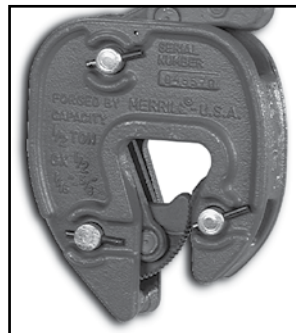

Figure 7
3. **DO NOT** use a clamp on a member whose thickness is less or more than the grip range shown on the clamp. Every Campbell clamp has its lifting capacity and grip range forged or stamped into the body (Fig. 7).